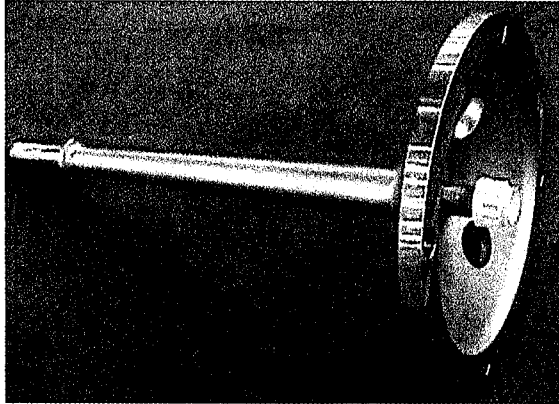

Figure 4 - Piston Damper Rod Assembly w/Damper Adapter
- a. Attach piston assembly damper adapter (Item 38) to piston assembly damper rod (Item 40), and tighten nut (Item 39) to 1200 in-lbs. (*See Figure 4*)